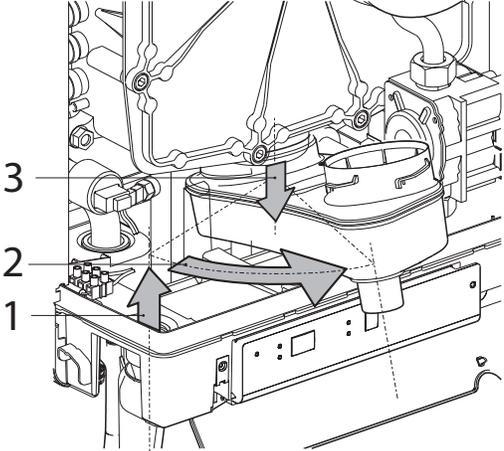

Fig. 25: Removal of Condensate Pan
5. Once the condensate pan is clear of the bottom jacket, rotate it towards the front of the appliance and push down on the rear to disengage from the heat exchanger as shown in Fig. 25, page 63.